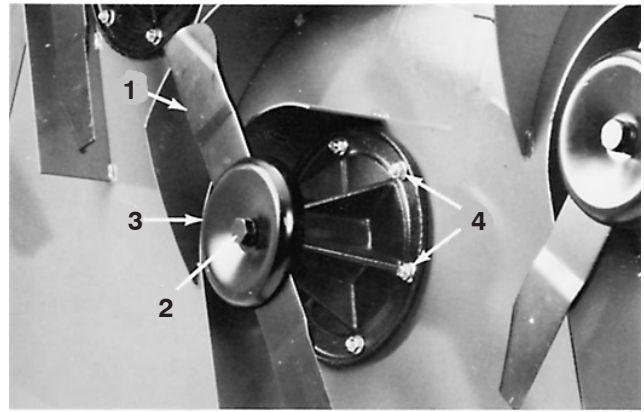

Figure 66
2. Using a rag or thickly padded glove, grasp end of blade. Remove blade bolt, lockwasher, anti-scalp cup and blade from spindle assembly (Fig. 66).